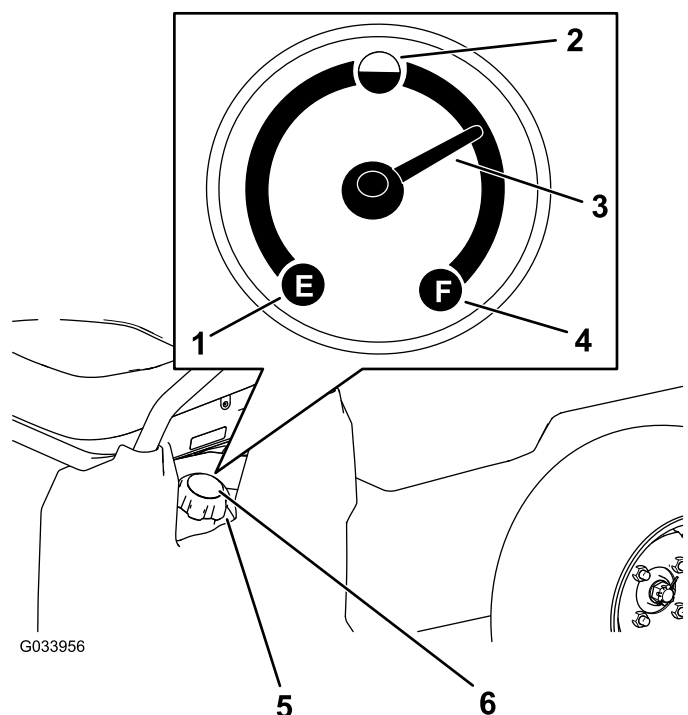

Figure 14
5. Clean the area around the fuel-tank cap (Figure 14).